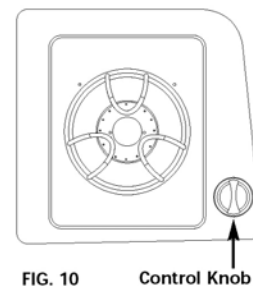

FIG. 10
1. Turn the side burner control knob to HIGH (see Fig. 10).